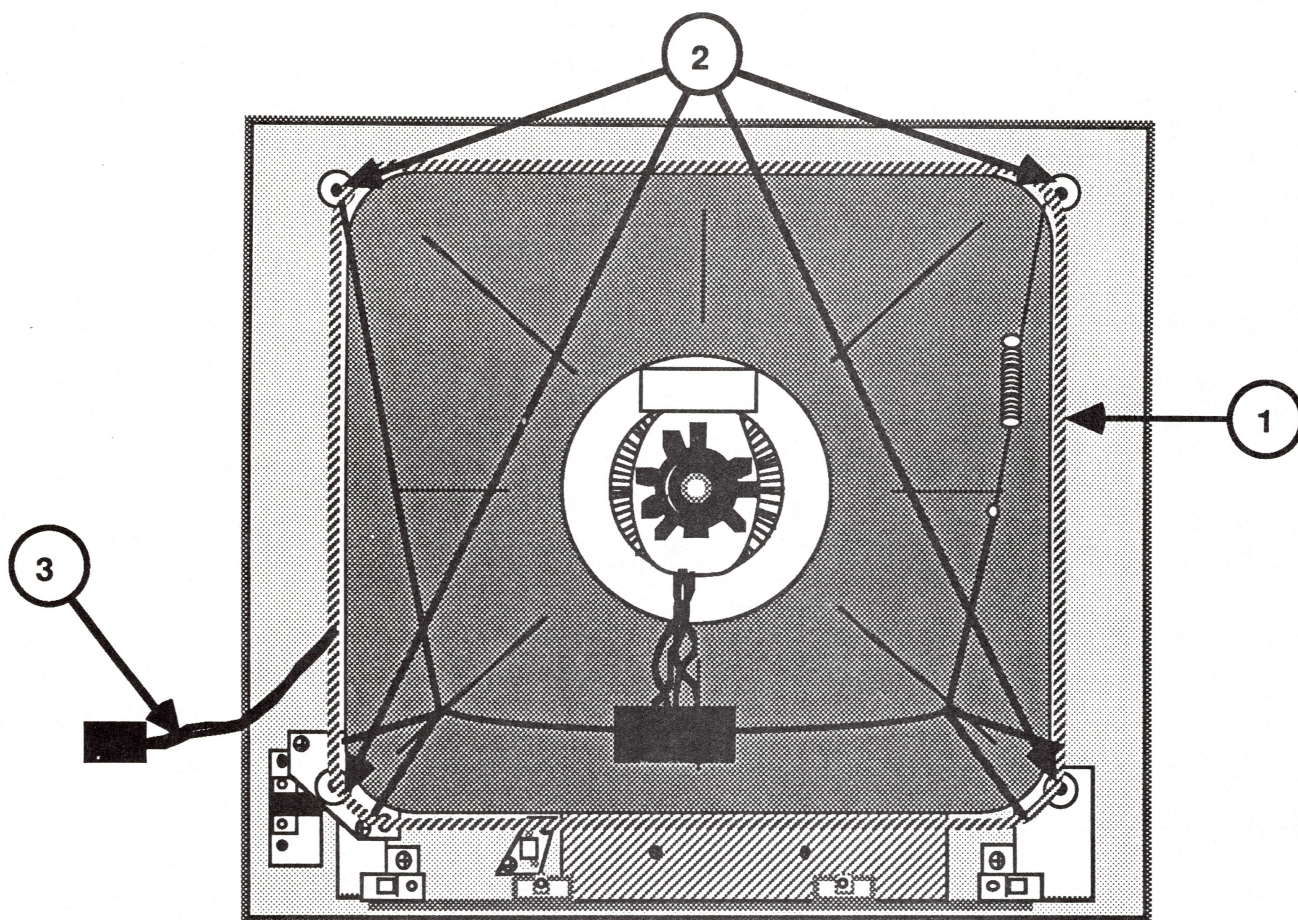

FIGURE 19
6. Locate the degaussing coil (Figure 19, #1). It is braced to the CRT by plastic coated holding tabs at each corner.
8. Remove the four CRT mounting screws (Figure 19, #2), the washers, and holding tabs.
2. Carefully set the CRT inside the bezel (see Figure 19).
3. Replace the holding tabs, washers, and CRT mounting screws (Figure 19, #2).
4. Place the degaussing coil over the CRT so that the connector (Figure 19, #3) is at your left (when facing the back of the monitor).